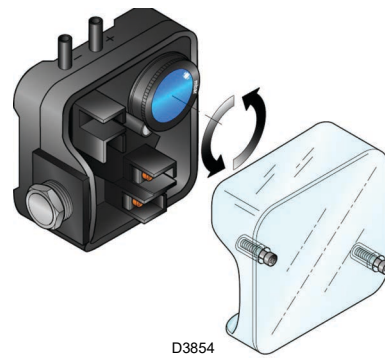

Fig. 36
- Adjust the air pressure switch (Fig. 36) to the start of the scale.
Adjust the air pressure switch after performing all other burner adjustments with the air pressure switch set to the start of the scale (Fig. 36).